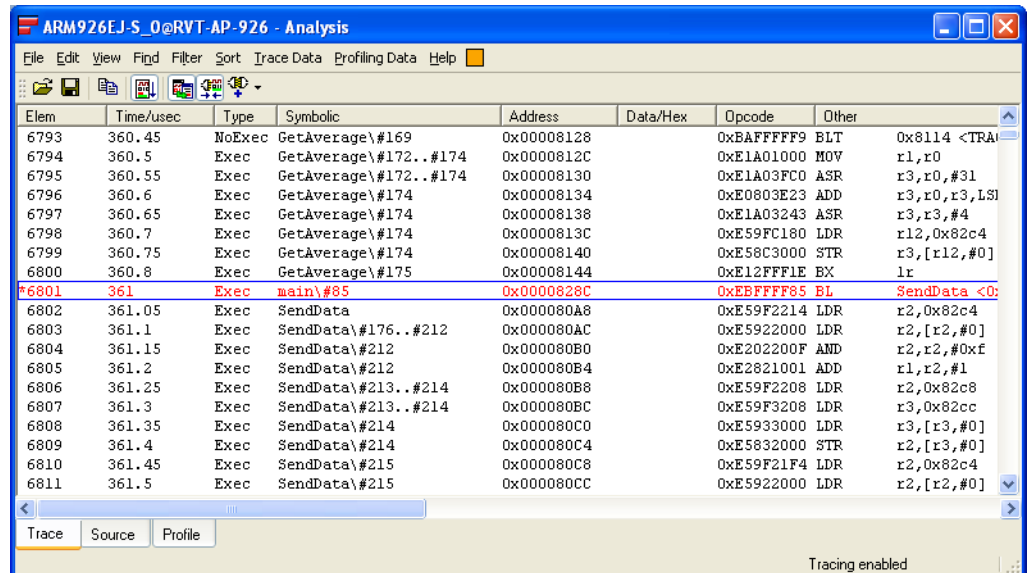

Figure 10-82 Captured trace around the trigger
6. Scroll down the trace output to see the captured trace after the trigger point. Figure 10-82 shows an example: